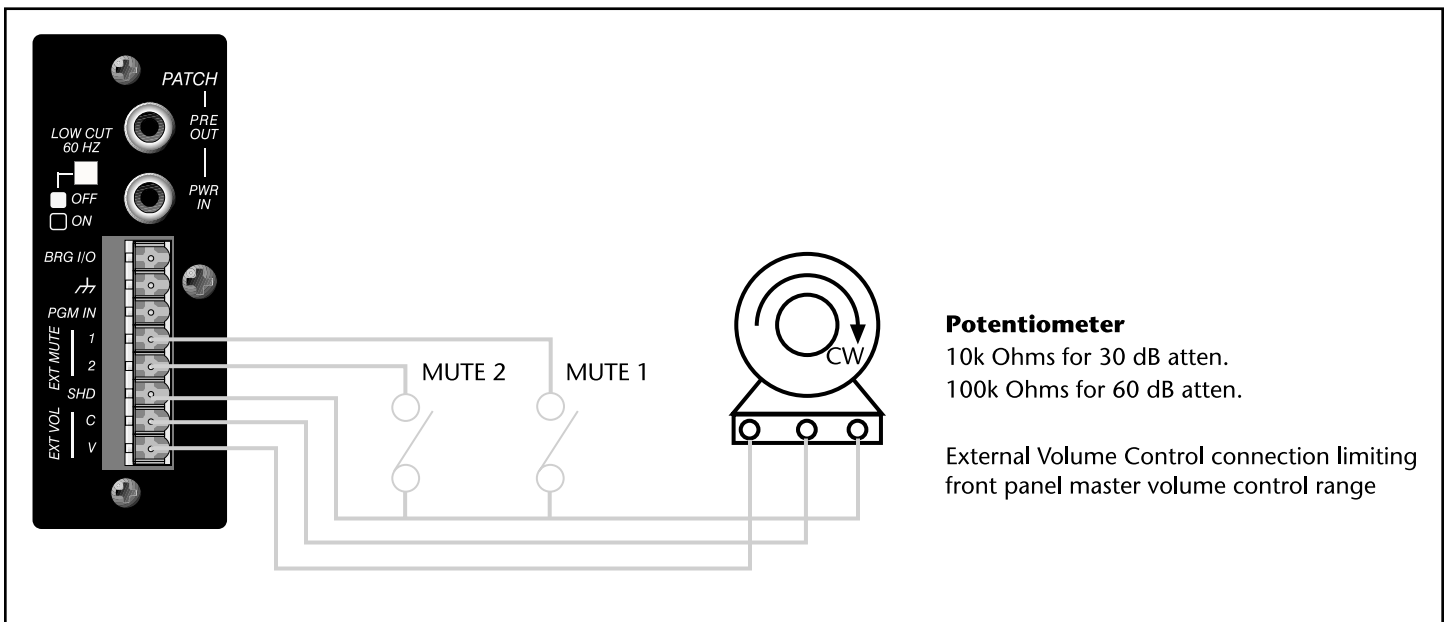

Figure 1
These connections allow the use of an external (remote) master volume control. For complete command of the volume from the remote control, the front panel Master Level control (#1) must be set at its maximum (10) position. The remote volume control should be connected as shown in **Figure 1**, with the clockwise terminal connected to the Shield (SHD); the wiper connected to the Control (C); and the counterclockwise terminal connected to the Voltage (V). Using a 10k Ohm linear taper potentiometer will provide approximately 30 dB attenuation, while using a 100k Ohm linear taper potentiometer will provide approximately 60 dB attenuation. See **Figure 1**.